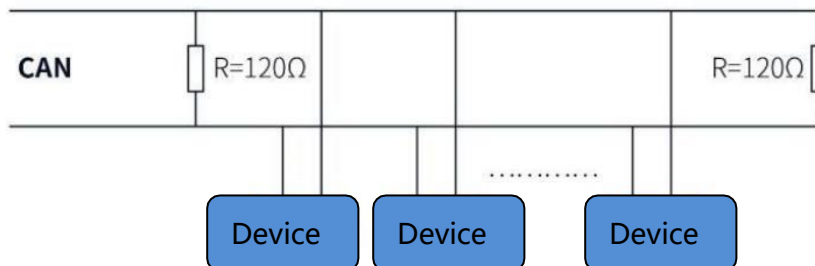

Figure 11 CAN Connection Method
- When using CAN bus protocol to connect multiple devices, please refer to the connection method shown in Figure 11 below.